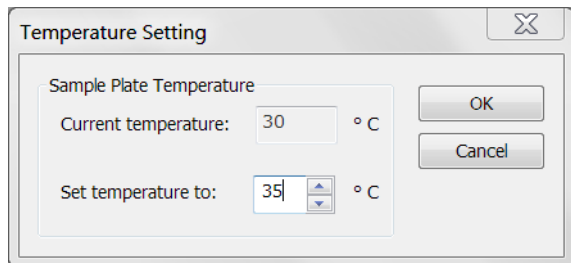

Figure 2-22: Temperature Setting
2. Select the desired temperature in the **Set temperature to** field (Figure 2-22) and, then click **OK**.